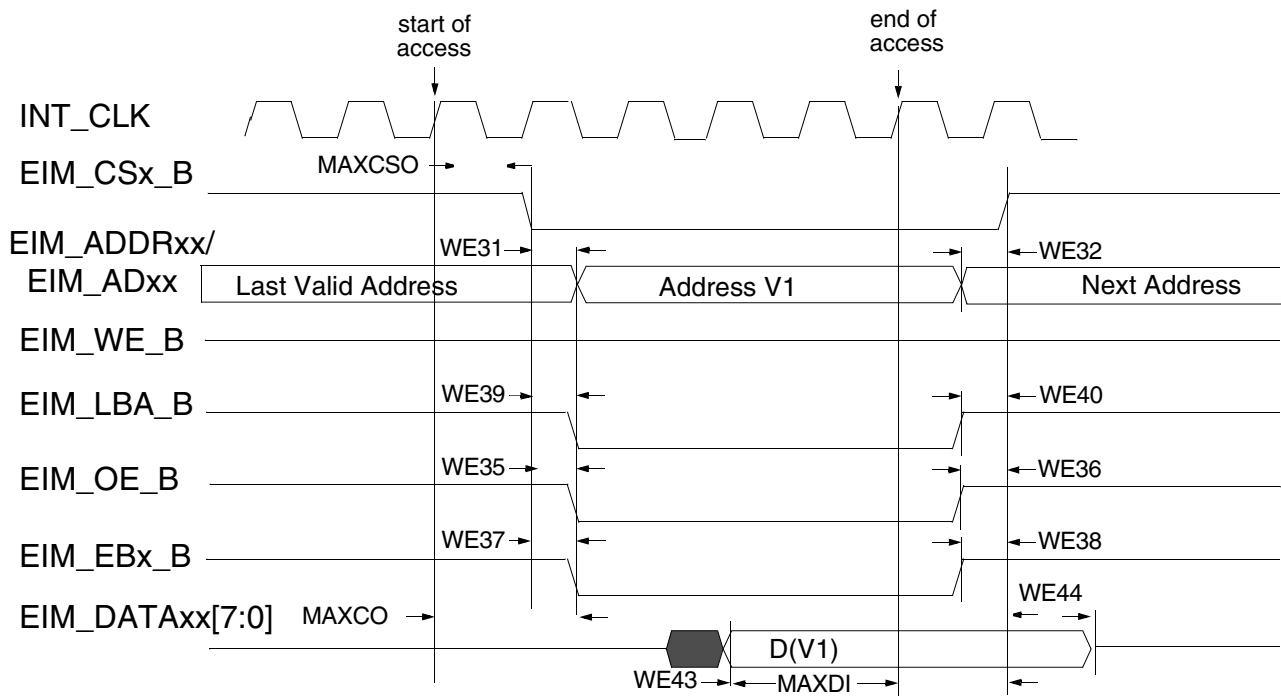
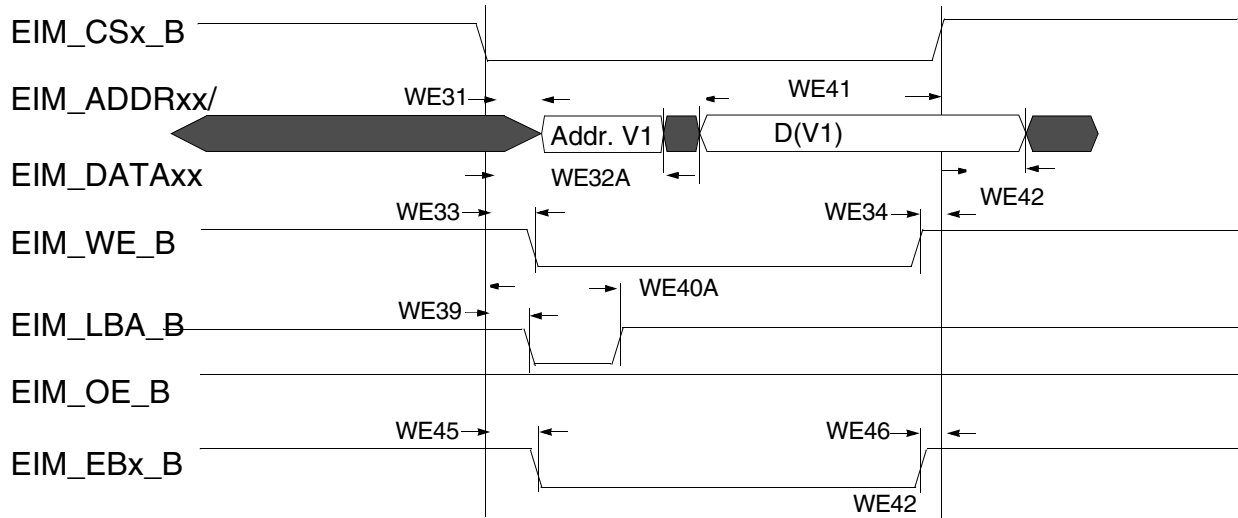
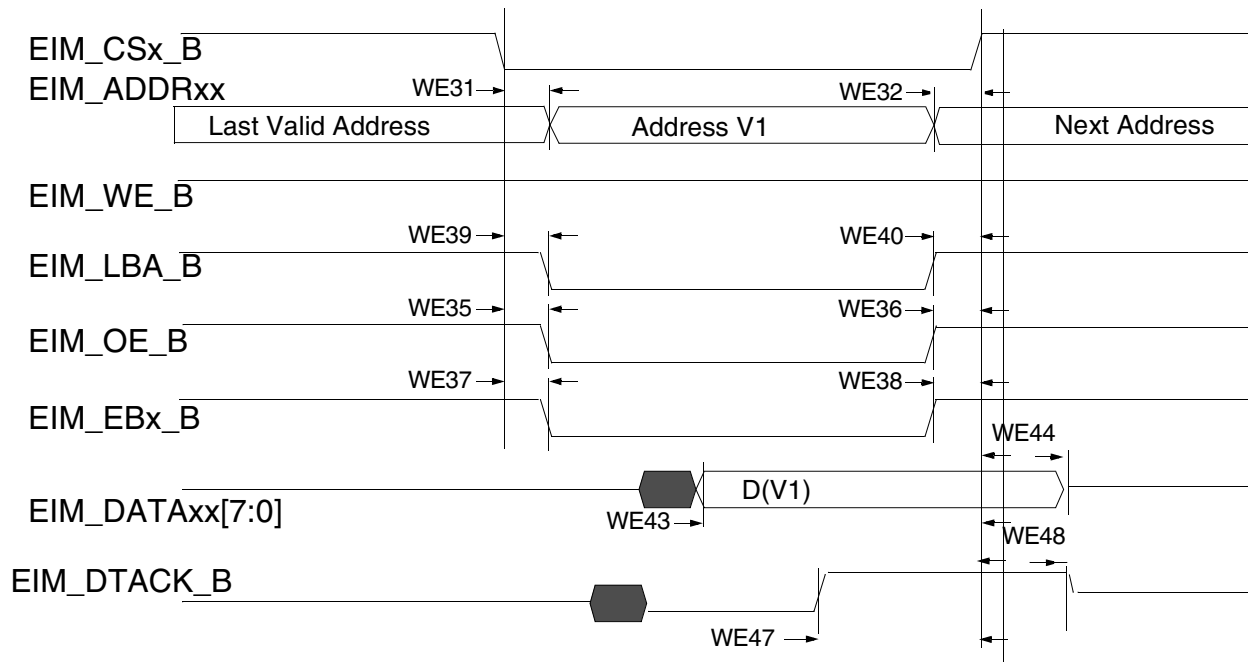

Figure 18. Asynchronous memory read access (RWSC = 5)
Figure 21. Asynchronous A/D muxed write access
Figure 22. DTACK mode read access (DAP=0)
Figure 18 through Figure 22, and Table 39 help you determine timing parameters relative to the chip select (CS) state for asynchronous and DTACK EIM accesses with corresponding EIM bit fields and the timing parameters mentioned above.
Asynchronous read & write access length in cycles may vary from what is shown in Figure 18 through Figure 21 as RWSC, OEN and CSN is configured differently. See the *i.MX 7Dual Application Processor Reference Manual (IMX7DRM)* for the EIM programming model.